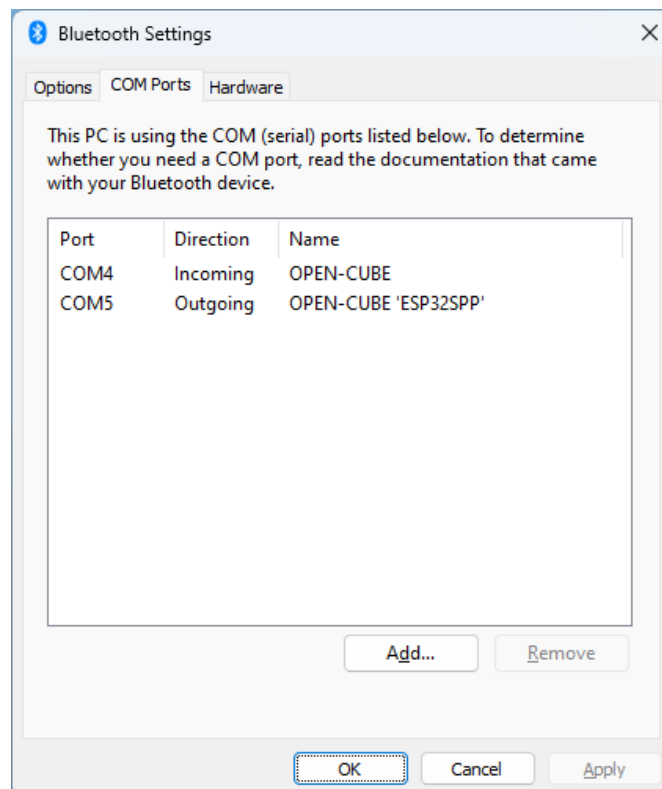

Figure 3: Determining the COM port number
3. To find the COM port number, go to the advanced Bluetooth settings. The required COM port has a name containing ESP32SPP and the direction Outgoing. See figure 3. This COM port is used for both receiving and sending data.